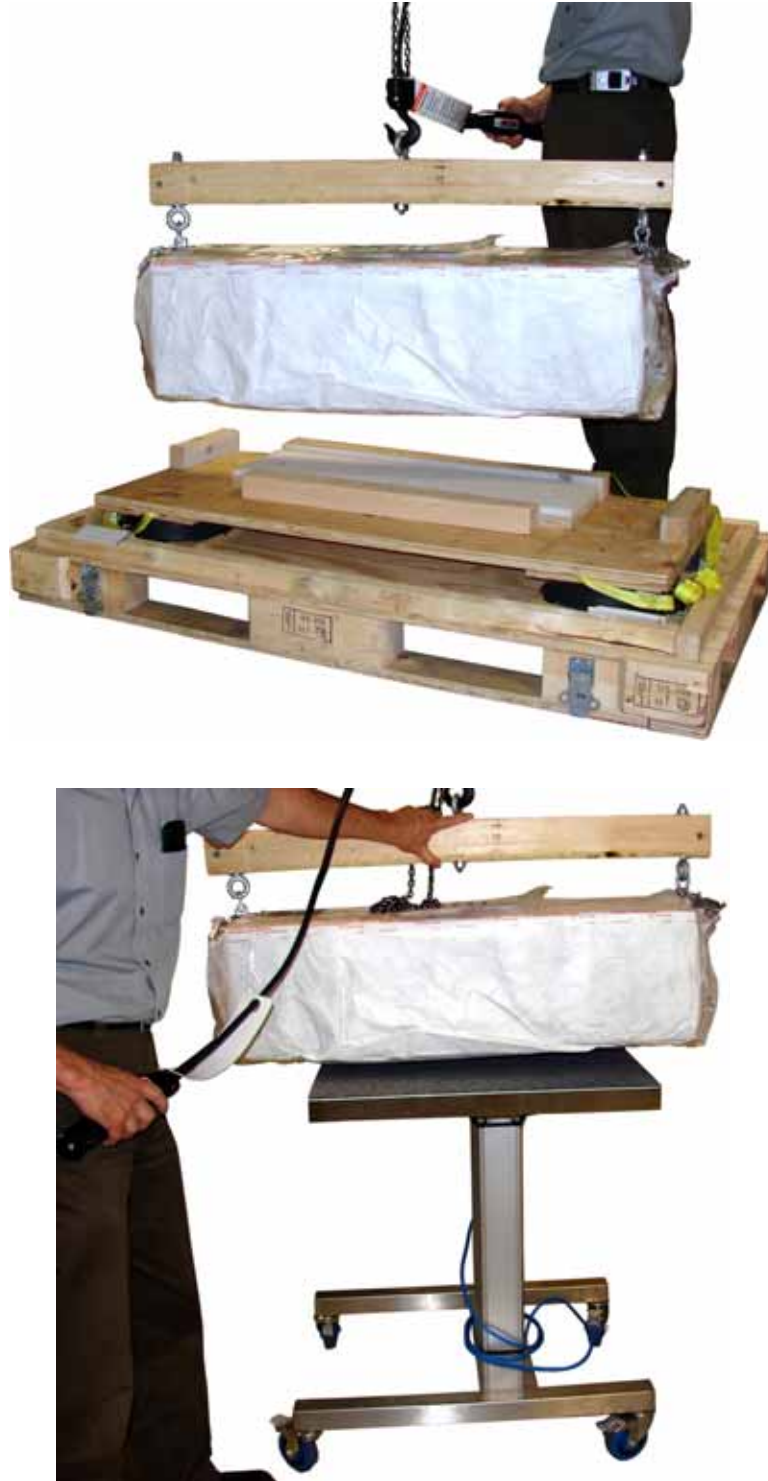

Figure 3-20. Lift and Place the E-400 Series Laser
14. Secure the spreader bar to the forklift or hoist capable of lifting 114 kg (250 lbs.). Carefully lift the laser onto a cart as shown in Figure 3-20.